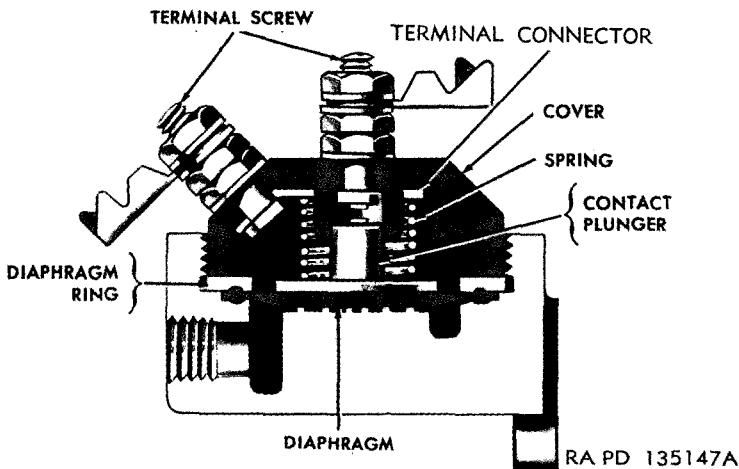
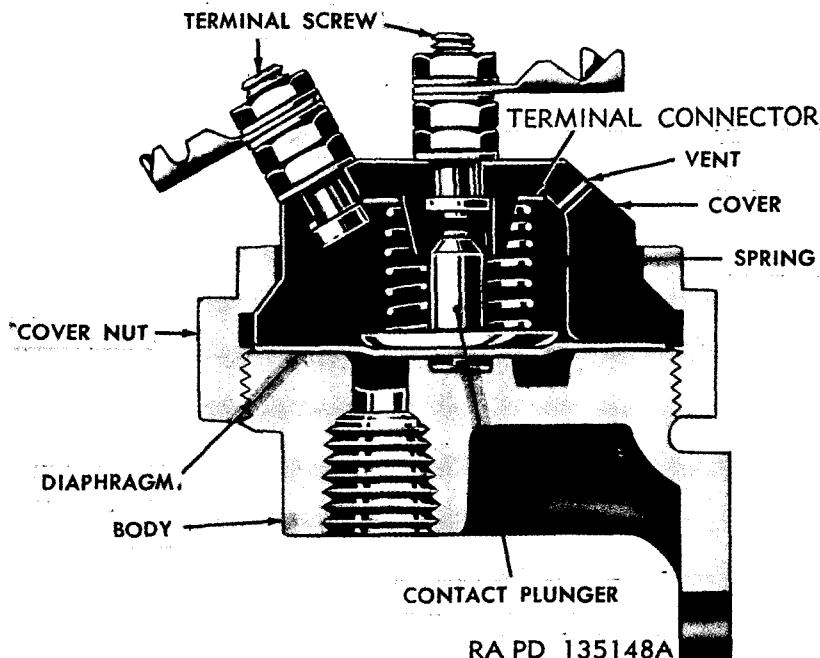
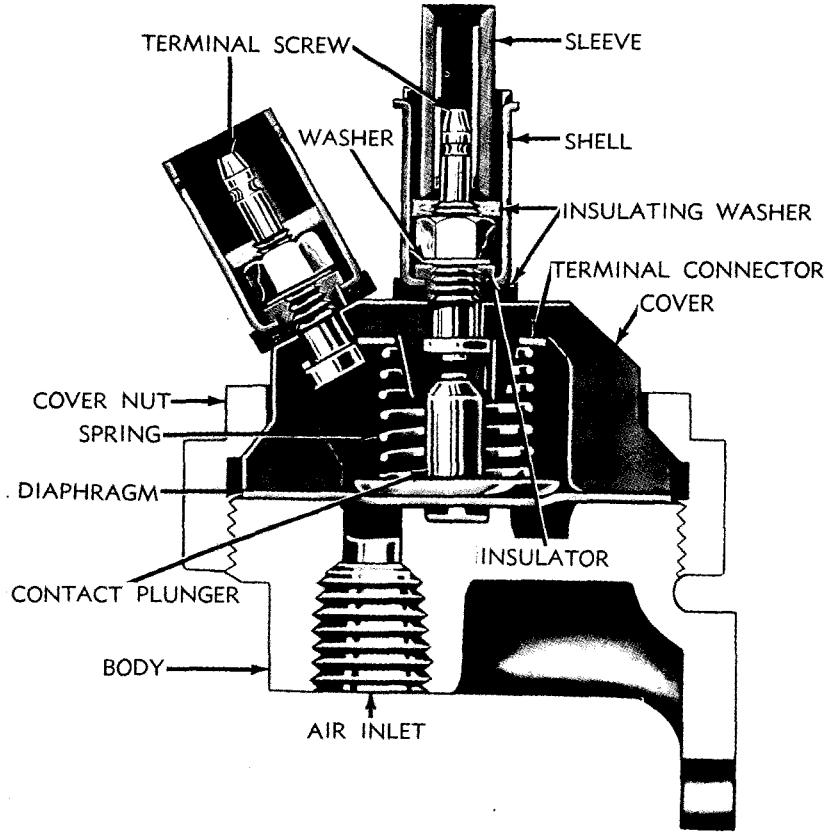

Figure 227. Type SL-1 stop light switch—sectional view.
Figure 228. Type SL-2 stop light switch—sectional view.
Figure 229. Type SL-2 stop light switch (waterproof)—sectional view.
c. Operation (figs. 227, 228, and 229).
- (1) Above the diaphragm inside the switch, a contact plunger fitted with a contact point makes contact with the contact point on one terminal screw when air pressure enters the switch below the diaphragm. The coil spring is in the electrical circuit and connects the contact plunger with one of the electrical terminals.
- (2) When air pressure from the brake valve enters the cavity on one side of the diaphragm, the diaphragm changes its position, overcomes the force of the spring and moves the contact plunger until the contacts close. This closes the stop light electrical circuit. The switch is designed to close as soon as 5 pounds air pressure is delivered to it. This means the stop light circuit closes immediately a brake application is made.
- (3) When air pressure acting on the diaphragm is exhausted by the brake valve, the spring forces the diaphragm and the contact plunger back to their normal position and the stop light circuit is opened.
- (4) Stop light switches are designed to handle a maximum electrical load of six 21-candlepower lamps at 12 volts or three 21-candlepower lamps at 6 volts.
- a. *Type SL-1* (fig. 227). Unscrew cover from body and lift out spring contact plunger, diaphragm ring, and diaphragm. Remove terminal screws, washers, nuts, and terminals.
- b. *Type SL-2* (fig. 228). Unscrew cover nut. Lift cover and remove spring, contact plunger, and diaphragm. Remove terminal screws, washers, nuts, and terminals. Lift terminal connector from cover.
- c. *Type SL-2 (waterproof)* (fig. 229). Construction of the waterproof switch is the same as the standard SL-2, with the exception that waterproof terminals are used. Disassembly of the stop light switch is the same as in b above. When removing terminal screws, remove sleeve, nuts, washers, terminal, insulating washers, and connector shell. Lift terminal connector from cover.
a. *Type SL-1* (figs. 227 and 230).
- (1) Install terminal screw having a contact point in center hole in cover and secure with washer, nut, and another nut as lock nut.
- (2) Position terminal connector in cover, install terminal screw and secure with washer, nut, and another nut as lock nut.
- (3) Position diaphragm and diaphragm ring in body. Set contact plunger and spring on diaphragm. Install cover and tighten.
- (4) Install cable terminals, with washers on each side, and secure with nut.
b. *Type SL-2* (figs. 228 and 231).
- (1) Install terminal screw having a contact point in center hole of cover, and secure with washer, nut, and another nut as lock nut.
- (3) Place diaphragm on switch body and set contact plunger and spring in position. Install cover nut. Hold cover to prevent turning while tightening cover nut. Install terminals with washer on each side and secure with nut.
c. *Type SL-2 (waterproof)* (fig. 229).
- (1) Place an insulator in the smaller of the two shells and press its small diameter into hole in bottom of shell. Install terminal screw having contact point in center hole in cover and install large insulating washer on terminal screw. Install shell and inserted insulator on terminal screw. Install washer and